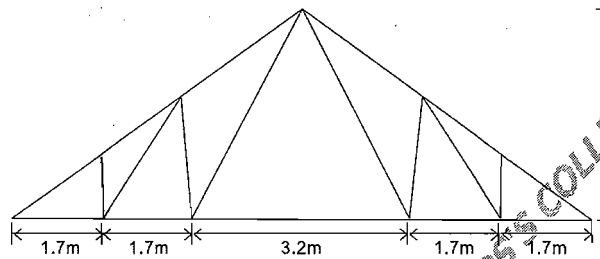

Fig : 2
3. Design the roof truss for following data in Fig 2.